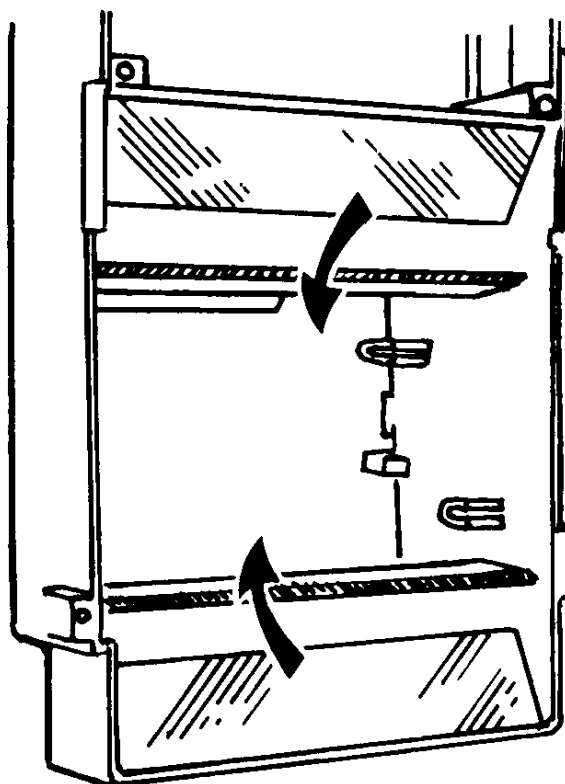

Figure 4-31 Removing Horizontal Reflectors
- 1.5 In the Main Frame, remove Horizontal Reflectors by sliding them down and out. (Fig. 4-31)